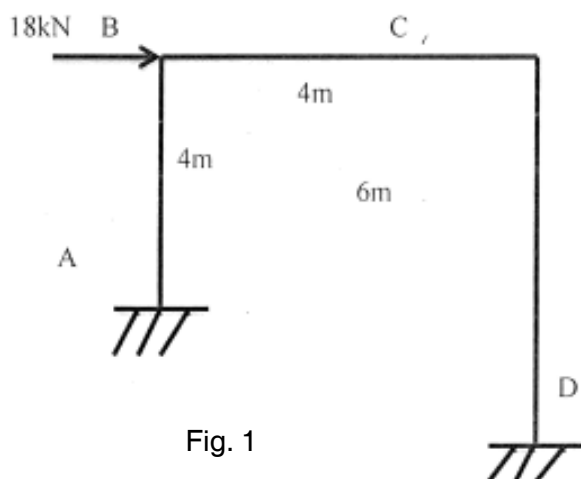

Fig. 1
1. Analyse the portal frame as shown in fig. by slope deflection method. All the member have the same flexural rigidity. Refer Fig. 1.